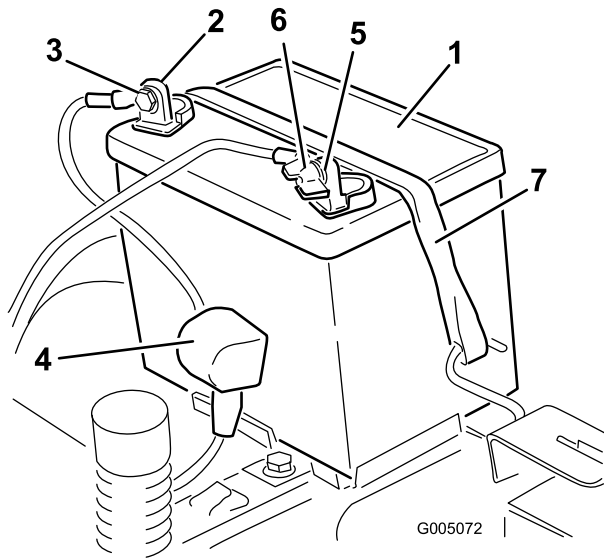

Figure 32
4. Disconnect the negative (black) ground cable from the battery post (Figure 32). Retain all fasteners.
- Slide the rubber cover up the positive (red) cable. Disconnect the positive (red) cable from the battery post (Figure 32). Retain all fasteners.
- Remove the battery hold-down (Figure 32) and lift the battery from the battery tray.
- Position the battery in the tray with the terminal posts toward the operating position (Figure 32).
- Secure the battery with the hold-down (Figure 32).